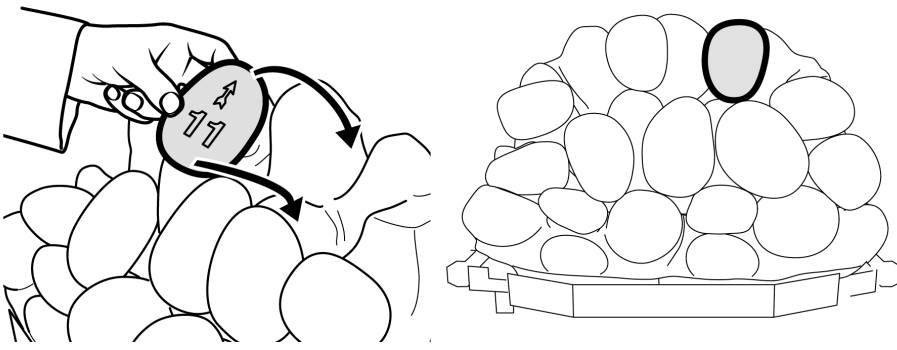

Figure 39. Third row "Pebble 11"
21. Hold pebble '11' upright with the arrow pointing to the top. Locate pebble '11' as shown in figure 39